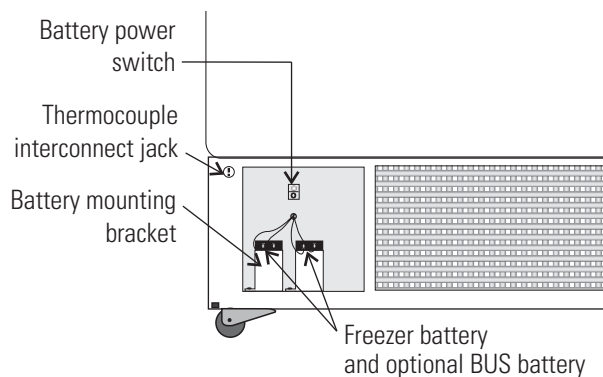

Figure 5-1. Component Locations
1. Install the injection assembly (Figure 5-1) through the 1/2" pre-punched hole, directly behind the 2" vent stack hole in the center of the chamber ceiling.